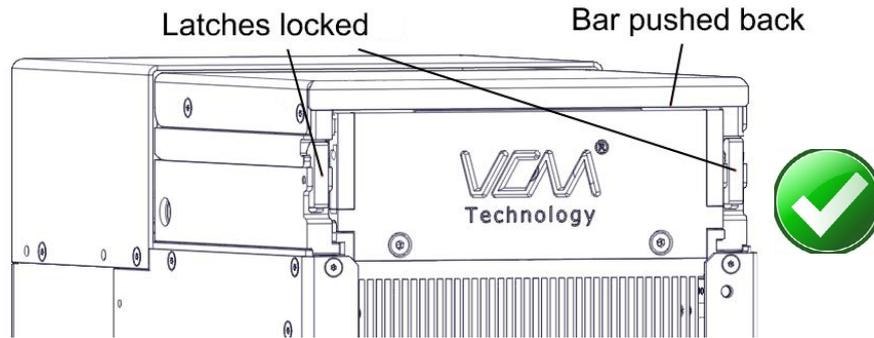

Fig.46: Correctly closed lid
- Push down the lid until the latches are locked (fig. 46).
Always check whether the lid is closed and locked correctly → fig. 46 above